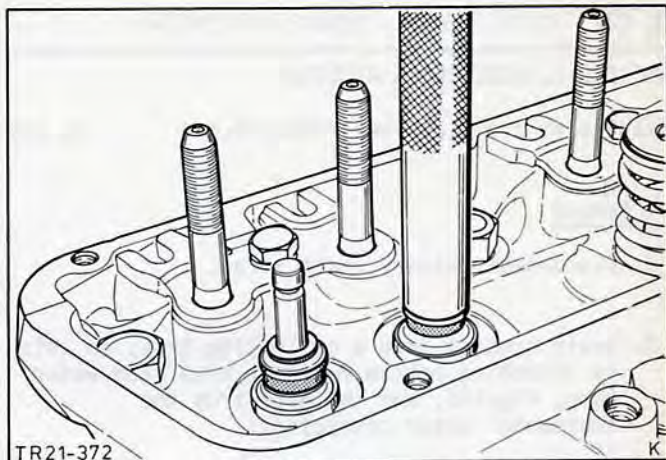

Fig.103. Fit valve stem oil seal.
8. Mask valve collet recesses with adhesive tape. Moisten oil seals with oil and fit using special tool 21-007, Fig.103. Then remove adhesive tape from valve stem.